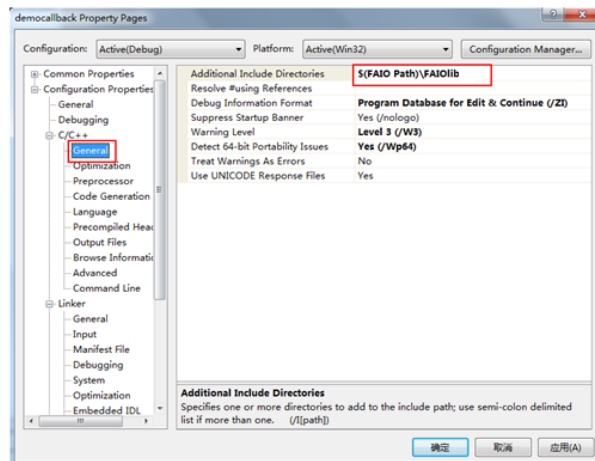

Figure 2.4.1 General configuration for C/C++
2. Configure the project environment, as shown in figures 2.4.1, 2.4.2, and 2.4.3: